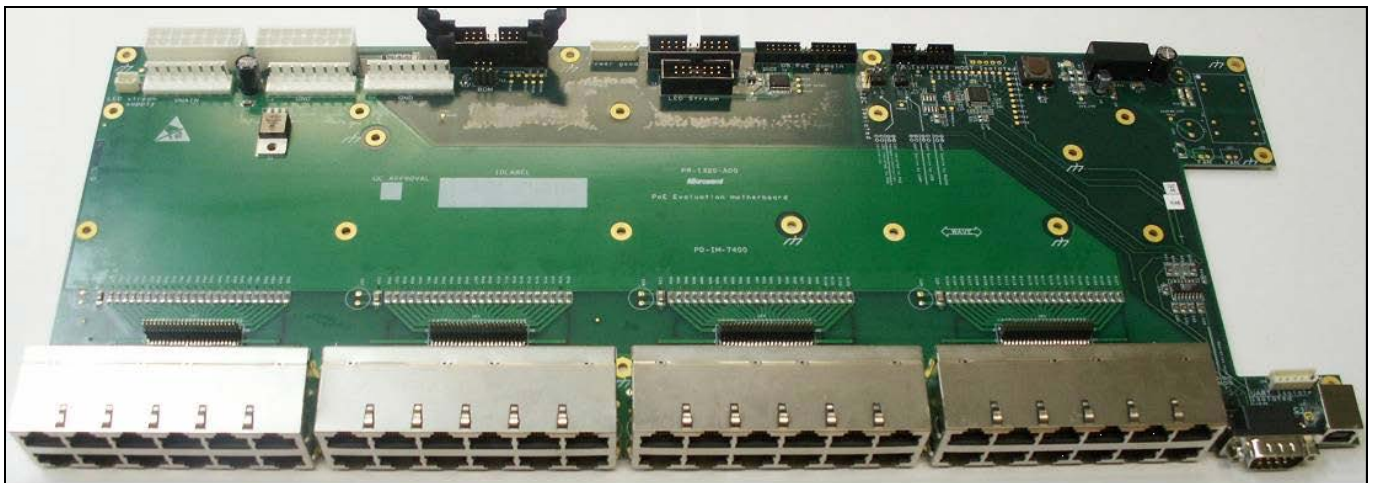

Figure 1: Mother Board - General View
Microsemi's PD-IM-7448 evaluation board (see Figure 1 and 2) provides the designer with the needed environment to evaluate the performance and the implementation of PoE applications based on the PD69012 - PoE Manager and the PD69000 - PoE Controller. This board can be configured to support Enhanced and Autoc PoE operational modes. The PD-IM-7448 provides the customer with the ability to apply any PoE application while using different daughter boards (DB) connected to the top of the mother board (MB).